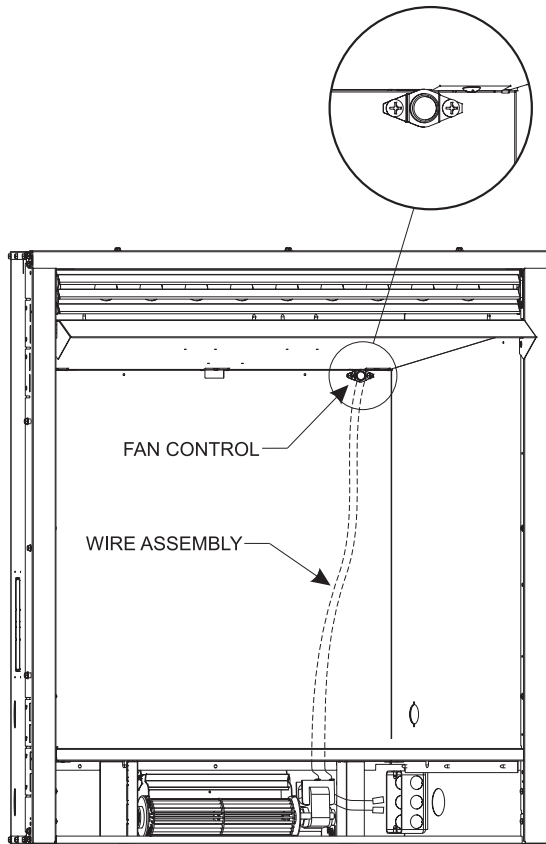

Figure 6
5. Next, find the fan control switch and wire assembly. Feed the wires through the hole at the top of the firebox, and secure the fan control switch with the two screws provided. See Figure 6.
6. The fan control wires will slide down between the firebox and outer wrap near the blower assembly. **See Figure 6.**